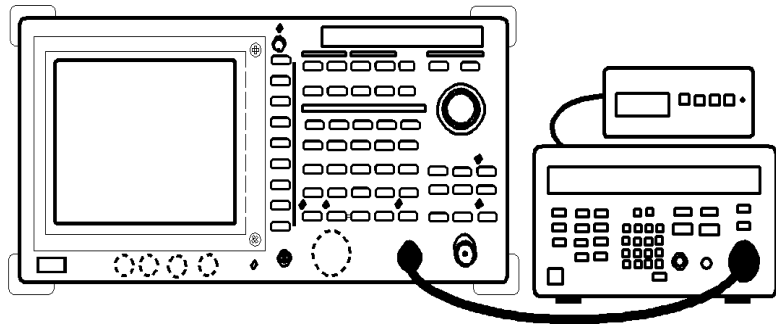

Figure 1-1 Setup for Measuring a Frequency Reference Output Accuracy
1. Connect the frequency counter and the frequency standard as shown in Figure 1-1.